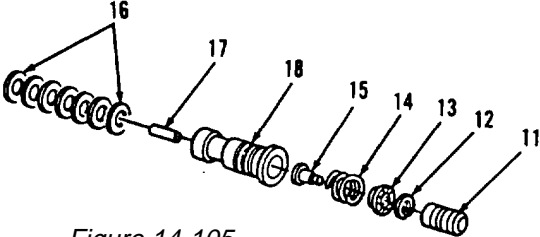
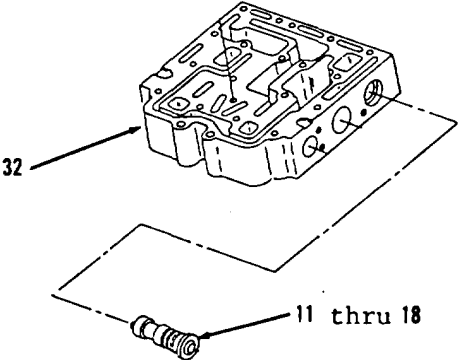

Figure 14-105.
Figure 14-104.
- 6. Install pin (17) and seven spacers (16) in spool (18, Figure 14-105).
- 7. Install plunger (15), spring (14), retainer (13) and retaining ring (12) on spool (18).
- 8. Install slug (11) in spool (18).
- 9. Install items 18 thru 11 as an assembly in body (32, Figure 14-104).